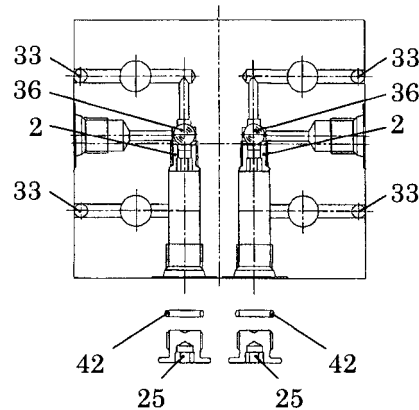

Fig. 4-7 Assembling the shuttle
8. Assembling the shuttle. (See Fig.4-7.)